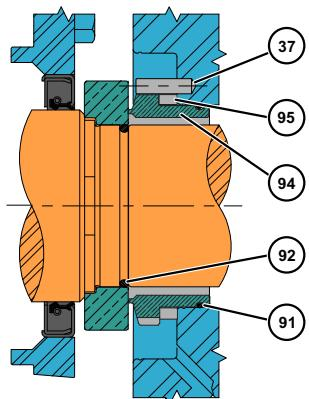

Figure 68 - Single Mechanical Seal
1. Lubricate the shaft O-ring (Figure 68, item 92) with a lubrication compound compatible with the O-ring material and process fluid(s). Place the O-ring on the shaft.
2. Install the rotating seal seat (item 93) on the shaft. Align the drive flats on the seat with the drive flats on the shaft.
4. Install the inner wave spring (item 95) onto the inner seal (item 94).
5. Lubricate the inner seal O-ring (item 91) with a lubrication compound compatible with the O-ring material and process fluid(s). Install the inner seal O-ring into the groove of the inner seal.